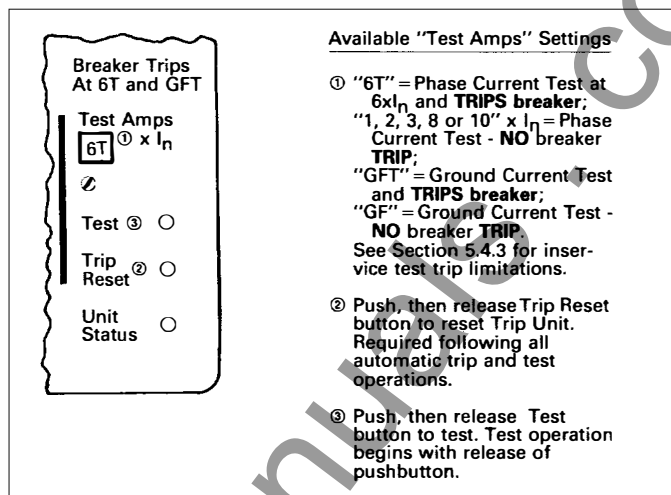

Fig. 5 Integral Test Panel (Lower Right Corner of Trip Unit)
As indicated in Fig. 5, six different “Test Amps” settings (1, 2, 3, 6T, 8 and 10X  $I_n$ ) are available for testing the phase elements of the trip unit, and two (GF, GFT) are provided for testing the ground elements.
1. Place the "Test Amps" selector switch (See Fig. 5) in one of the six "No Trip" test settings, i.e., 1, 2, 3, 8, or 10, x  $I_n$ , or GF.
2. Place the "Test Amps" selector switch (See Fig. 5) in one of the two "Trip" test settings, i.e., 6T or GFT.
3. Depress the black "Test" pushbutton (See Fig. 5) and release it - the test is initiated when the pushbutton is released.
5. Reset the trip unit by depressing and releasing the "Trip Reset" pushbutton (See Fig. 5). All LEDs lighted by the "Trip" test action should turn "OFF".